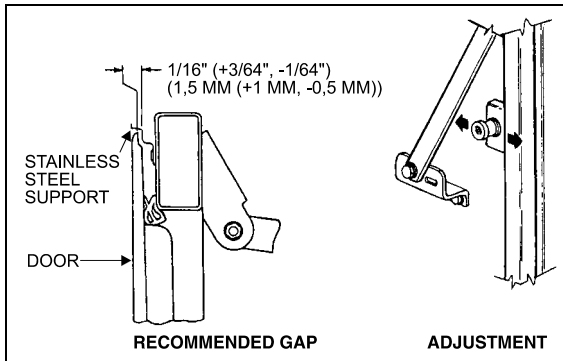

FIGURE 50: BAGGAGE COMPARTMENT DOOR 18069
6. Loosen the striker pins just enough to allow them to be moved with a hammer. Working from inside compartment and with the door closed (lower catches engaged), hit the pin washers to horizontally move the pins and consequently the door, while an outside assistant checks the fit. A gap of 1/16" +3/64", -1/64" (1,5mm +1mm, -0,5mm) between the stainless steel support for the lateral panel and the door panel lip is recommended (Fig. 50)